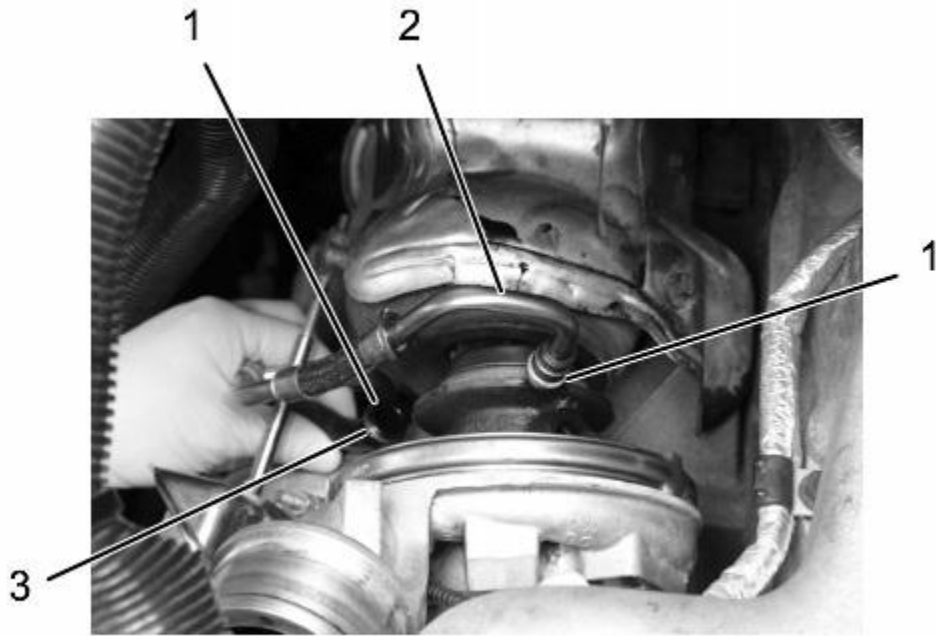

Figure 10. O-rings.
- 1. O-ring (2)
26. Remove HP turbocharger oil drain O-ring (Figure 10, Item 1). Discard O-ring.
1. Install new O-ring (Figure 10, Item 1) onto oil drain tube (Figure 10, Item 3).
2. Install new O-ring (Figure 10, Item 1) onto oil supply tube (Figure 10, Item 2).